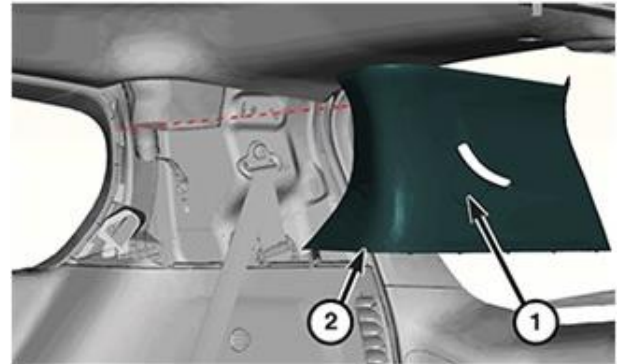

Figure 8 – D-Pillar Trim Panel
18. Remove the fastener cover then remove the fastener securing the D-pillar trim panel (Figure 8).
19. Using a trim stick or equivalent, release the retaining clips at the rear and top of the D-pillar trim panel (Figure 8).
20. Using a trim stick release the bottom of the D-pillar trim panel from the quarter trim panel, then pull at the front edge to release the front retaining clips (Figure 8).
22. Using a flat bladed tool, press the tab to disengage the airbag tether and slide it out of D-pillar trim panel (Figure 8).